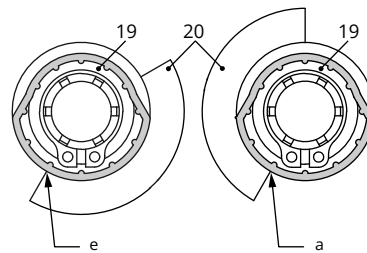

Fig. 21: Contact cam and switch carrier
The contact cams (19) are ready-mounted to the cam holder (20) and the retaining rings (9) to form the contact cam unit (21) (see Fig. 21).
3. Unscrew fastening screws. Slide the actuator board (12) from its guiding to the right. Slightly lift the board and continue pushing it further towards the cable entry.
4. Clip the spindle gear (2) onto the sleeve (13) and click into place. Make sure the side latch is properly engaged in the groove of the sleeve.
5. Slide the intermediate gear (1) onto the spindle 1 (11.1), mount the serrated ring (3) and push it down as far as it will go.
6. Slide the spacer (8) onto the spindle 2 (11.2).
7. Place the tension spring (4) on to the corresponding spindle, ensuring that the long wire of the tension spring rests on the spacer (8) and on the intermediate gear (1).
8. Place both ready-assembled contact cams (19) with the cog first onto the cam holder (20).
9. Slide adjustment gears (18) onto their spindles and fasten with one screw each. Check whether the adjustment gears can be turned easily. If not, slightly loosen its screw again.
10. Turn both contact cams (19) on the cam holder (20) as illustrated in Fig. 21 corresponding with the position of the actuator stem.